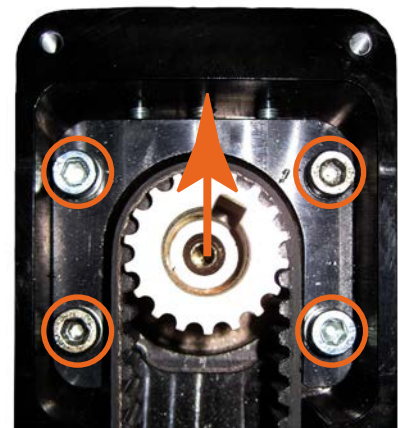

Figure 26: Toothed belt tension
- ◆ The screws (please refer to Figure 26: Toothed belt tension Pos.7) must be inserted (but not tightened), so that the drive unit can be lifted.